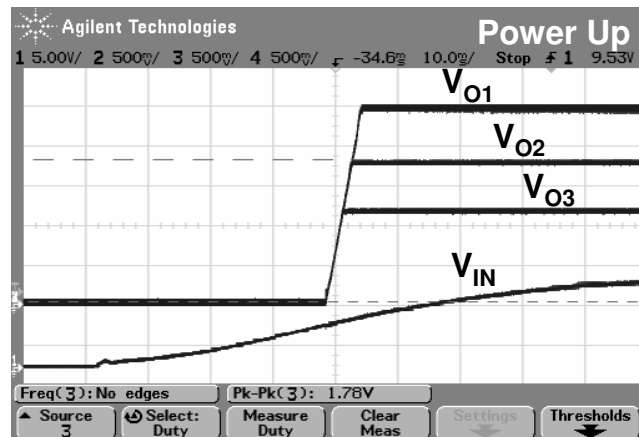

Figure 6. Power Up Tracking
*With existing tracking circuit assembly, VOUT1 starts independently (Option 1). VOUT2 tracks VOUT1 during start up (option 2). VOUT3 tracks VOUT2 during start up (option 2). Figure 6 and 7 are the typical power-up/down waveforms with rail tracking.